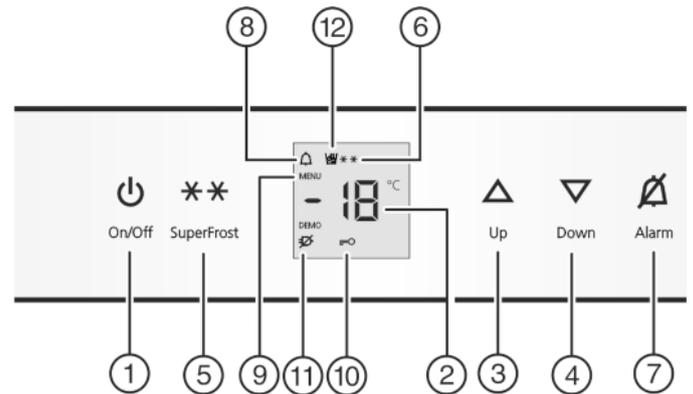

Fig. 2
- ▶ Press On/Off button Fig. 2 (1).
- ▶ To activate the setting mode: press SuperFrost button *Fig. 2 (5)* for about 5 s.
- ▷ The menu symbol *Fig. 2 (9)* shines.
- ▶ Briefly press the SuperFrost button *Fig. 2 (5)* to confirm.
- ▶ To activate the child lock, briefly press the SuperFrost button *Fig. 2 (5)*.
- ▷ The child lock symbol *Fig. 2 (10)* shines. **c** flashes in the display.
- ▶ to deactivate the child lock, briefly press the SuperFrost button *Fig. 2 (5)*.
- ▷ The child lock symbol *Fig. 2 (10)* goes out. **c** flashes in the display.
- ▶ To deactivate the set-up mode: press On/Off button *Fig. 2 (1)*.
- ▶ Press alarm button *Fig. 2 (7)*.
The temperature display and the alarm symbol *Fig. 2 (8)* flash at the same time.
The audible alarm is automatically silenced, the alarm symbol *Fig. 2 (8)* goes out and the temperature display stops flashing when the temperature is sufficiently cold again.
- ▶ To set the temperature higher: press Up button *Fig. 2 (3)*.
- ▶ To set the temperature lower: press Down button *Fig. 2 (4)*.